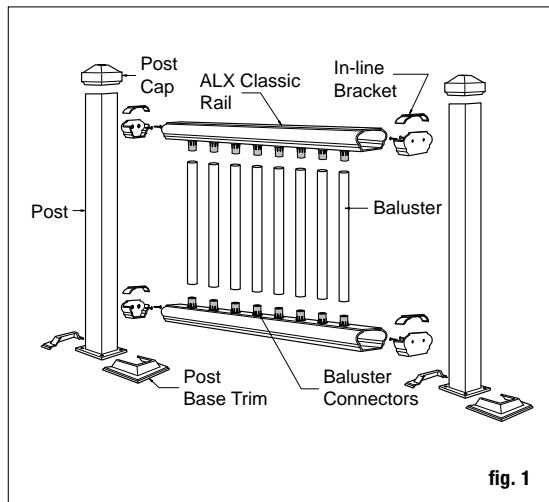

fig. 1
Step 6 Measure the distance between installed posts to determine the length of the top and bottom rails (fig. 1). Lay bottom rail on deck. The distance between the post and the first baluster should be less than 4" and equal on both ends. Mark the angle and length. Repeat with the top rail. Remove an additional 1/4" on both ends (1/2" overall) for the bracket to fit between the rail and post. Trim the top and bottom rails to length.